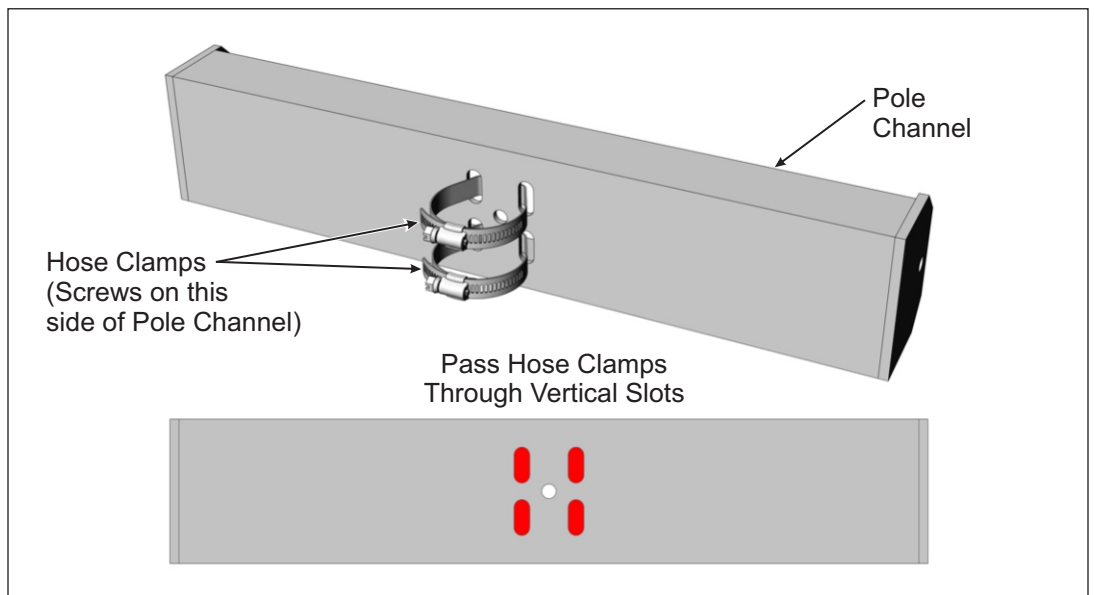

Figure 1-2: Installing Hose Clamps on Pole Channel
- A. Unscrew the two Hose Clamps and pass the loose ends through the two vertical slots of the Pole Channel, positioning the screw housing on the backside of the Pole Channel. Secure the loose ends by screwing them back into their screw housing. Complete this process on both Pole Channels. (See Figure 1-2)